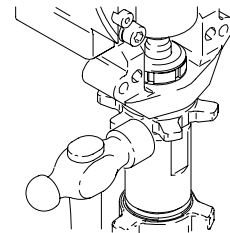

Fig. 16 7673B
3. Fig. 16. Screw jam nut down onto pump until stops. Screw pump up into bearing housing until it is stopped by jam nut. Back off pump and jam nut to align pump outlet to back. Tighten jam nut by hand, then tap 1/8 to 1/4 turn with a 20 oz (maximum) hammer to approximately 75 \square 5 ft-lb (102 N-m).